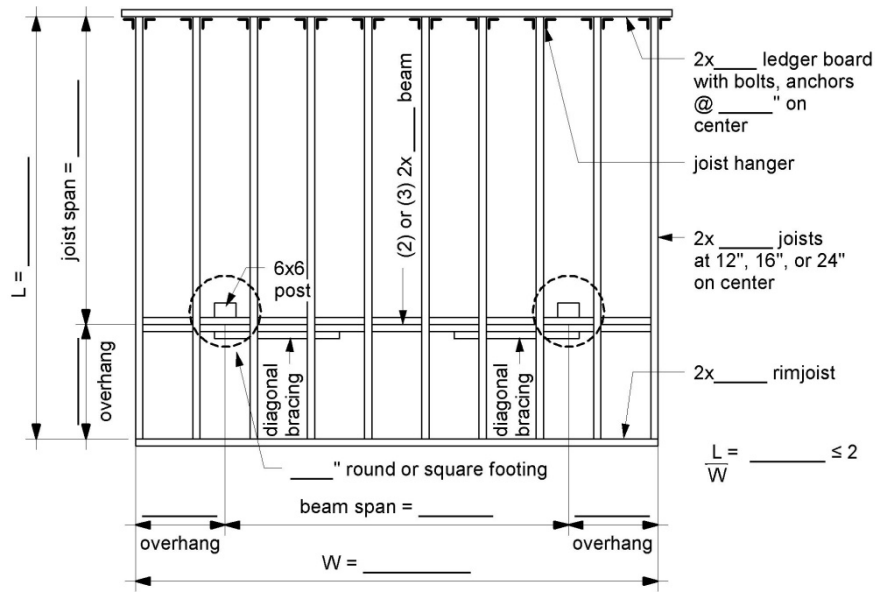

FIGURE 7: TYPICAL DECK FRAMING PLAN
*Revise FIGURE 7: ‘TYPICAL DECK FRAMING PLAN’ to remove the word “screws” from the note 2x _____ ledger board with bolts, screws, anchors @ _____” on center as shown below: